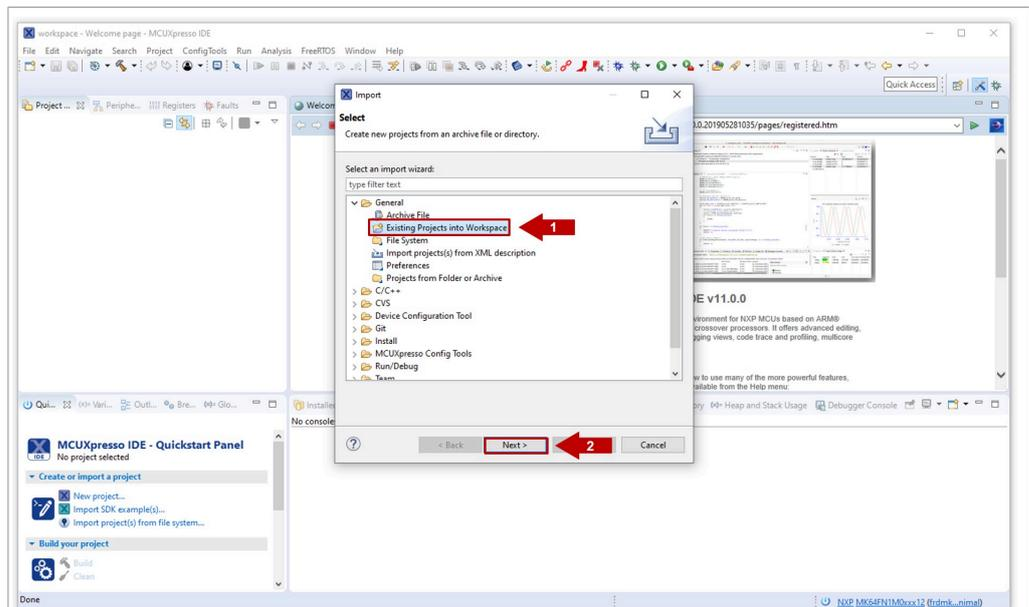

Figure 30. Import a project wizard (II)
2. In the import wizard menu, select import **"Existing Projects into Workspace"** from the *General* folder as shown in Figure 30: